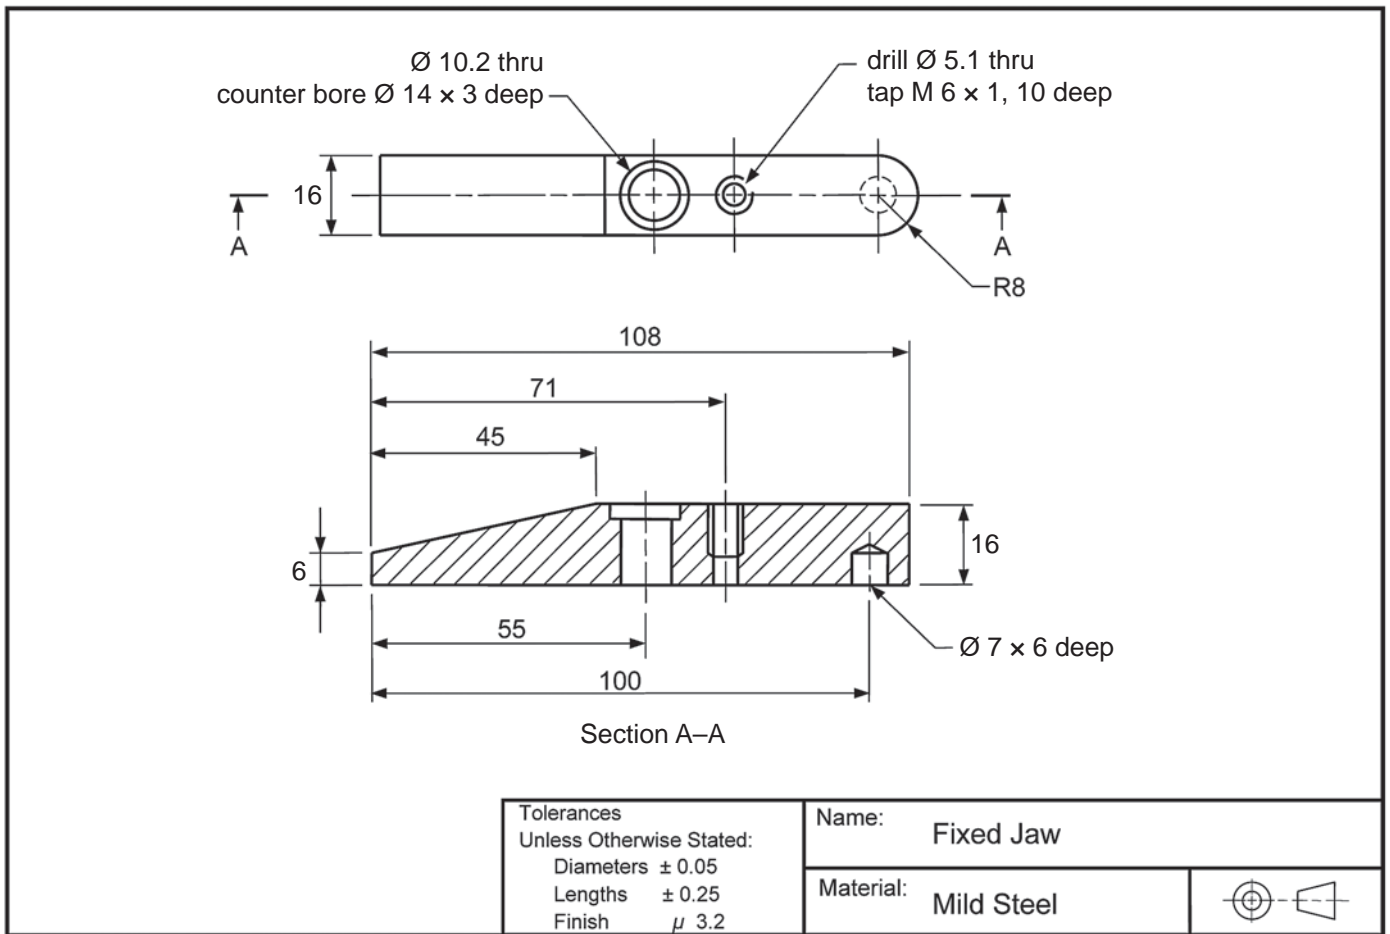

Figure 3
Figure 3 shows a detailed drawing of the fixed jaw from the parallel clamp.
Question 2 relates to the drawing shown in Figure 3.
The side view of the jaw in Figure 3 shows it drawn with 45° lines.
- e. What is the tolerance of the diameters in Figure 3?